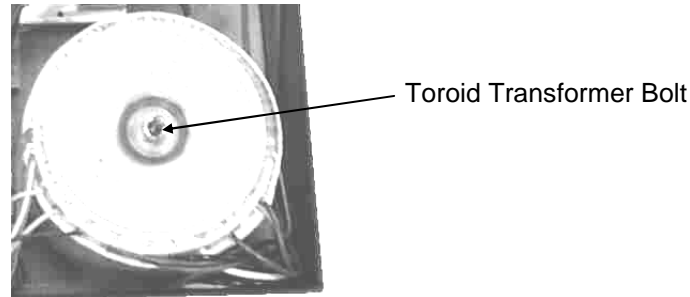

fig.10
- 1) Referring to fig.10 remove the Toroid Transformer bolt.